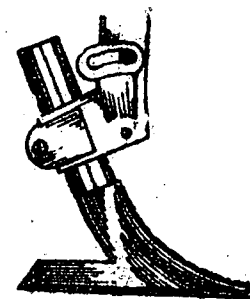

Fig. 1
- b) Adjust working pitch (Fig. 1).